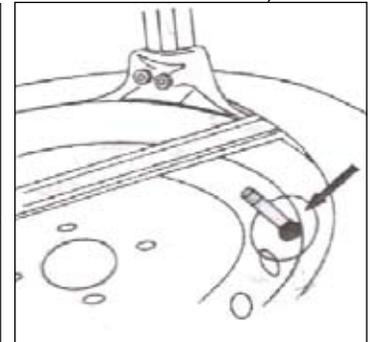

FIG 20
4.1.4 Insert the smooth curved end of the bead lifting tool over the forward end of the demount head and below the top bead of the tire (Fig 20). Use your free hand to press down on the tire opposite the head to help with tool insertion. Push the bead lifting tool down towards the wheel to lift the tire bead up and over the knob portion of the demount head. The tool may be removed if desired. Depress the table top pedal to rotate the wheel clockwise. The demount head will guide the upper bead up and over the edge of the wheel.